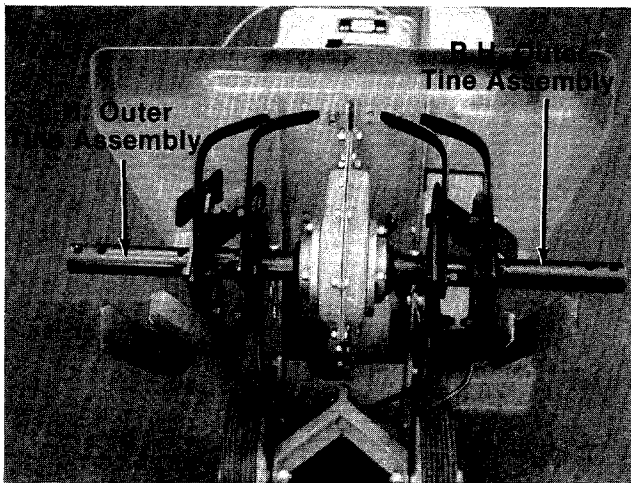

FIGURE 10.
- The inner tine assemblies are installed at the factory. The outer tine assemblies are inverted. See figure 10. The right hand outer tine assembly has been removed, inverted and slid onto the left hand side for shipping only. The same has been done with the left hand outer tine assembly.